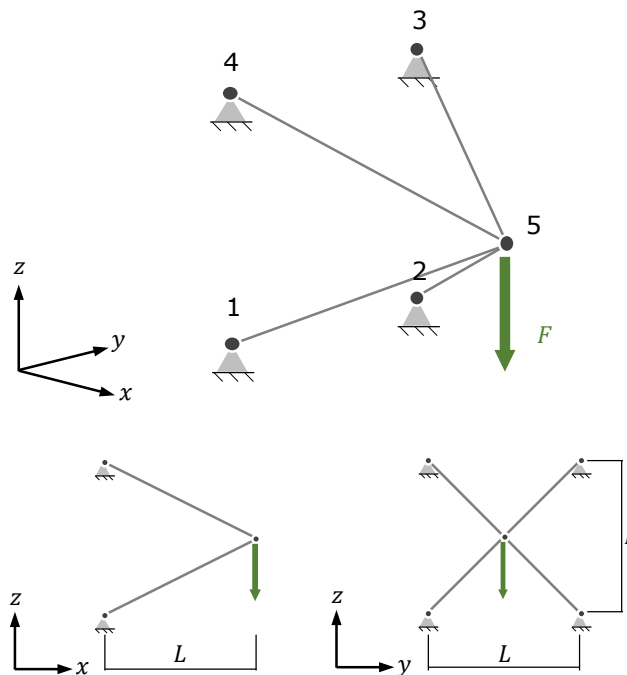

Figure 2. Test problem for 3D bars code (choose your own values for the parameters).
- A) Following the “ALG_3DBAR” guide, modify the MATLAB® code for Assignment 1 and adapt it to the 3D case. Use the structural assembly in Figure 2 to validate the code, by comparing numerical and analytical results.